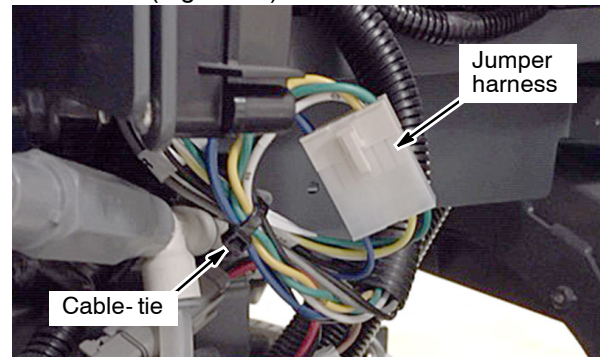

Fig. 16
16. Loop the adapter harness as shown and secure it with a cable-tie (Figure 16).